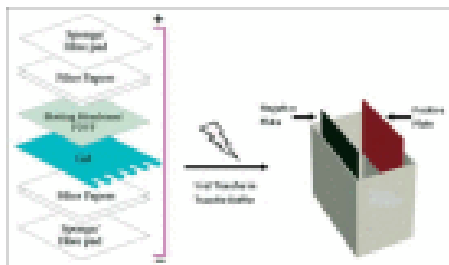

Figure 12
After separating the protein mixture, it is transferred to a membrane. The transfer is done using an electric field oriented perpendicular to the surface of the gel, causing proteins to move out of the gel and onto the membrane. The membrane is placed between the gel surface and the positive electrode in a sandwich. The sandwich includes a fiber pad (sponge) at each end, and filter papers to protect the gel and blotting membrane [Figure 12]. Here two things are very important: (1) the close contact of gel and membrane to ensure a clear image and (2) the placement of the membrane between the gel and the positive electrode. The membrane must be placed as such, so that the negatively charged proteins can migrate from the gel to the membrane. This type of transfer is called electrophoretic transfer, and can be done in semi-dry or wet conditions. Wet conditions are usually more reliable as it is less likely to dry out the gel, and is preferred for larger proteins.